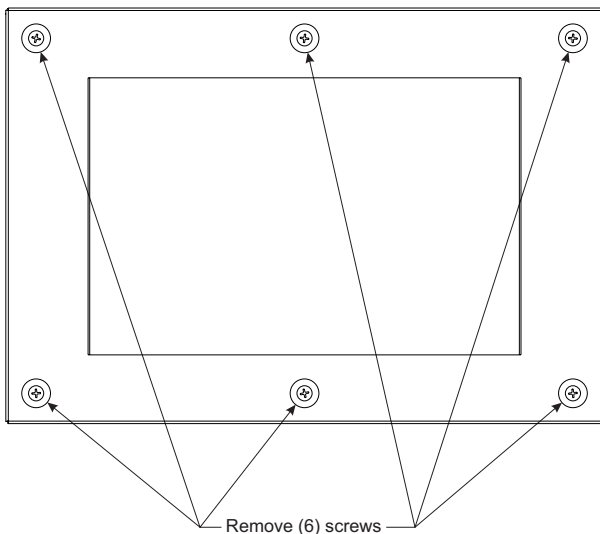

Figure 53
3. Remove the front fascia by removing the (6) #10-24 X 3/8 inch screws shown in **Figures 53 and 54**. Set front fascia and foam gasket aside.
1. Remove the front fascia by removing (6) #10-24 X 3/8 inch screws. **See Figure 53.**